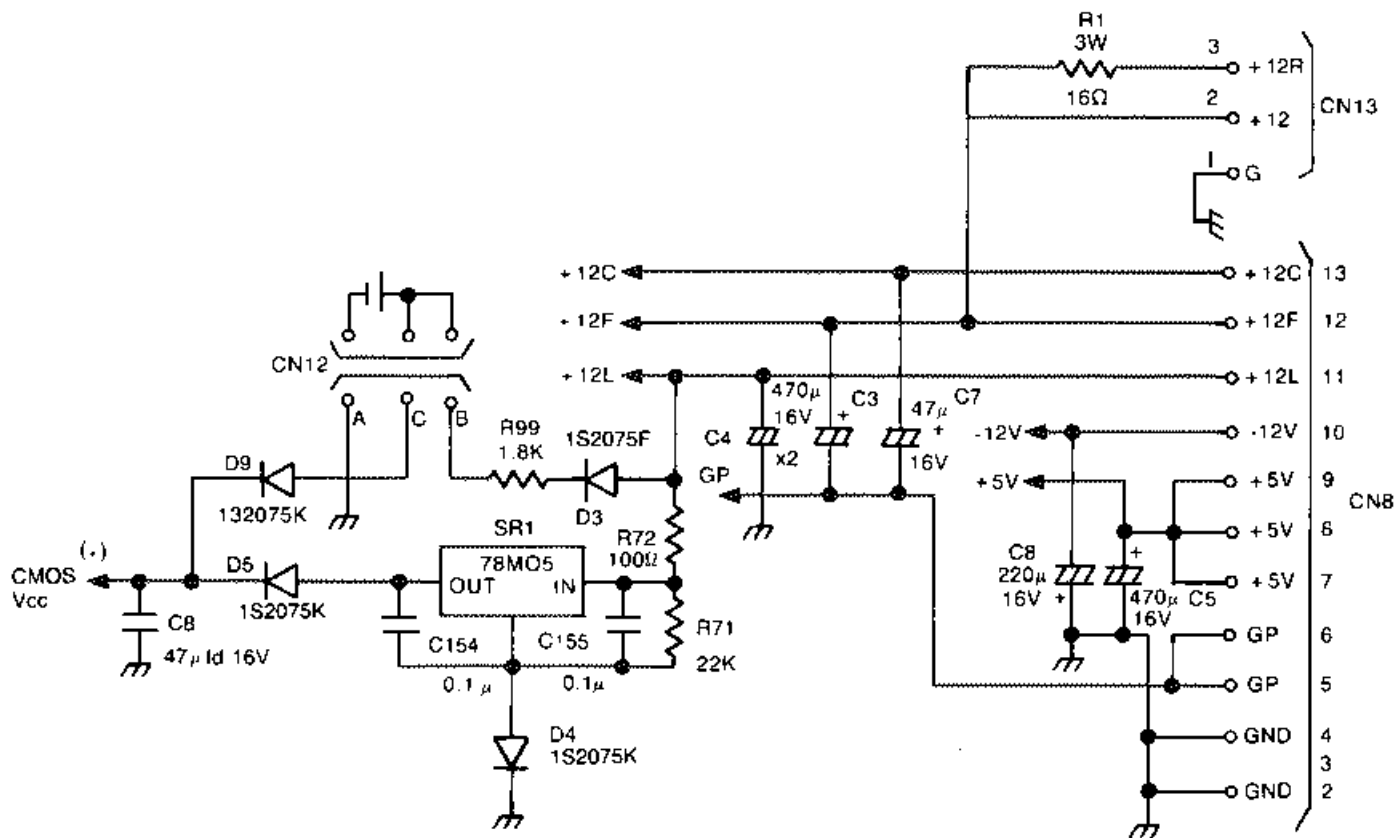

FIGURE 2-14. CMOS BATTERY BACKUP CIRCUIT
2.2.9 CMOS Battery Backup Circuit (Figure 2-14)